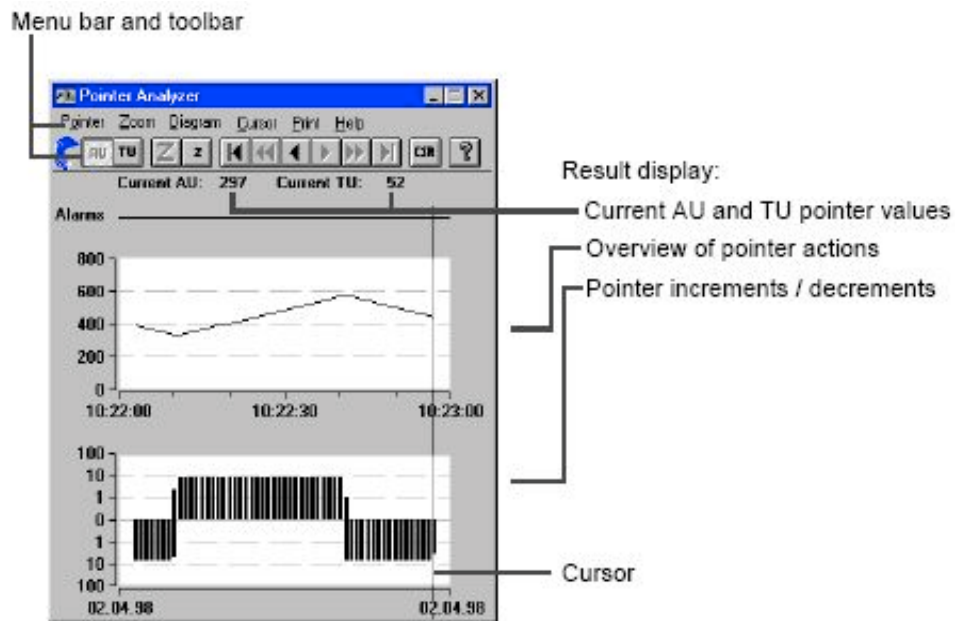

Fig.6-A Pointer Analyzer main window
3. Click on pointer analyzer VI. The main window appears as shown in fig.6-A
Icon (button) wise interpretation is given in fig.6-B